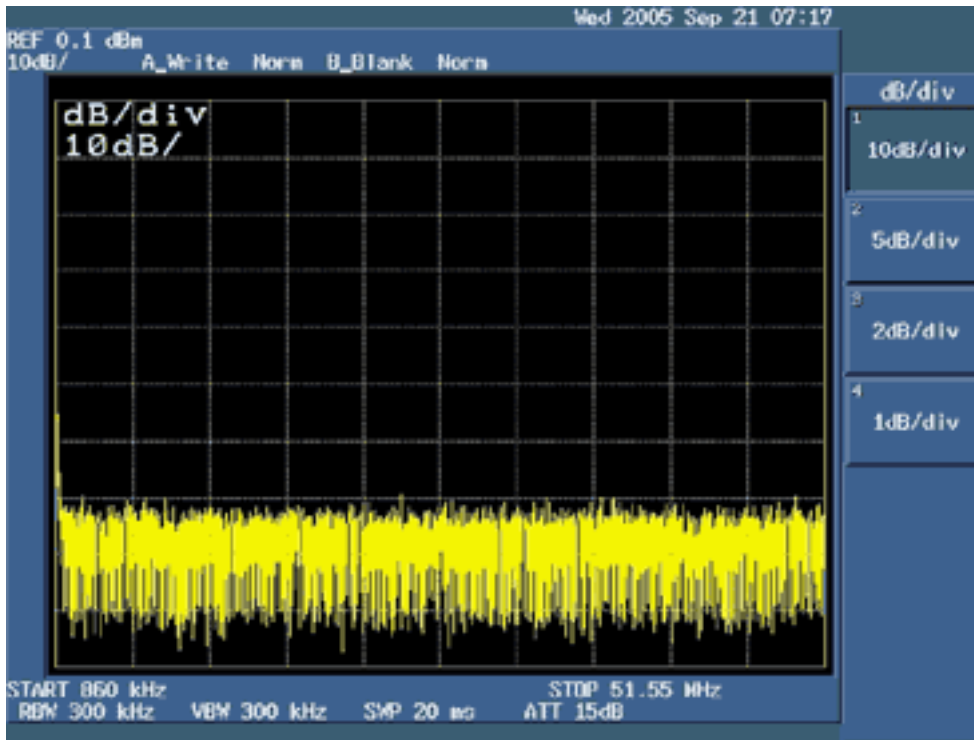

Figure 4. Selecting 10dB/div as the desired decibels-per-division ratio.
- Press soft key #3 (**dB/div**) to select **dB/div** display type. Select soft key #1 (**10dB/div**) as the desired decibels per division ratio, as shown in **Figure 4** and then press the **RETURN** key.